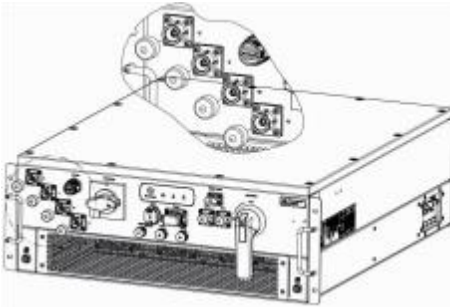

Figure 6-6: Remove the dust cover
Step 2: Take off the dust caps on the AC U,V, W and N sockets, as shown in Figure 6-6.